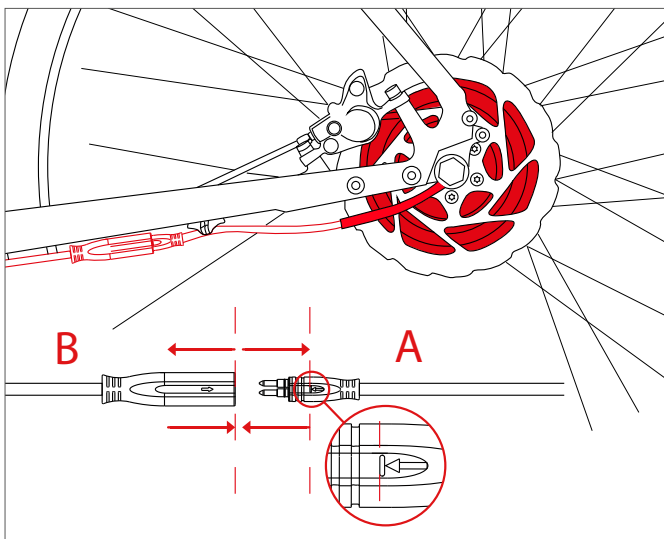

Figure 4.3 Connecting and disconnecting the motor cable – rear motor
1. Place the wheel with the new motor into the rear dropout of the bike (Fig. 4.3). Carefully position the cable when inserting into the forks to avoid damage – **the cable outlet must point downwards!**
4. Plug the motor cable connector into the connector of the motor extension cable (Fig 4.3 and 4.4).